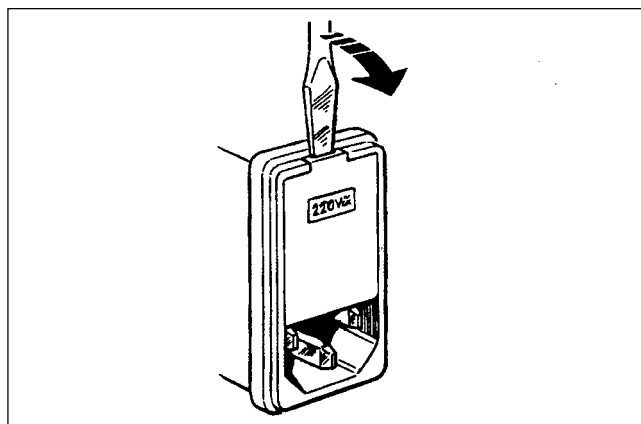

Fig. 5. Opening the fuse/voltage selector cover. Insert the screwdriver at the top centre and apply pressure according to the figure.
3. Open the fuse/voltage selector cover with a thin screwdriver (Fig. 5).